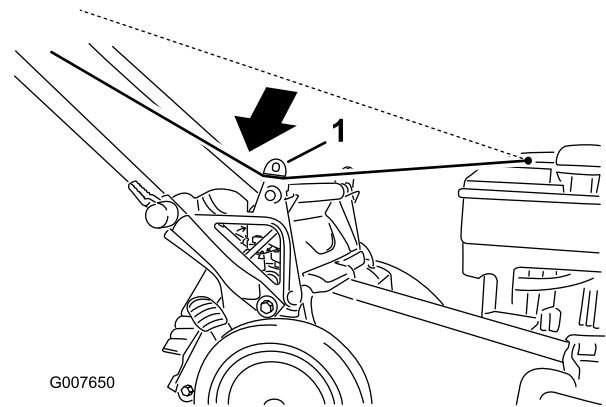

Figure 25
1. Route the starter rope around the lower rope guide (Figure 25).